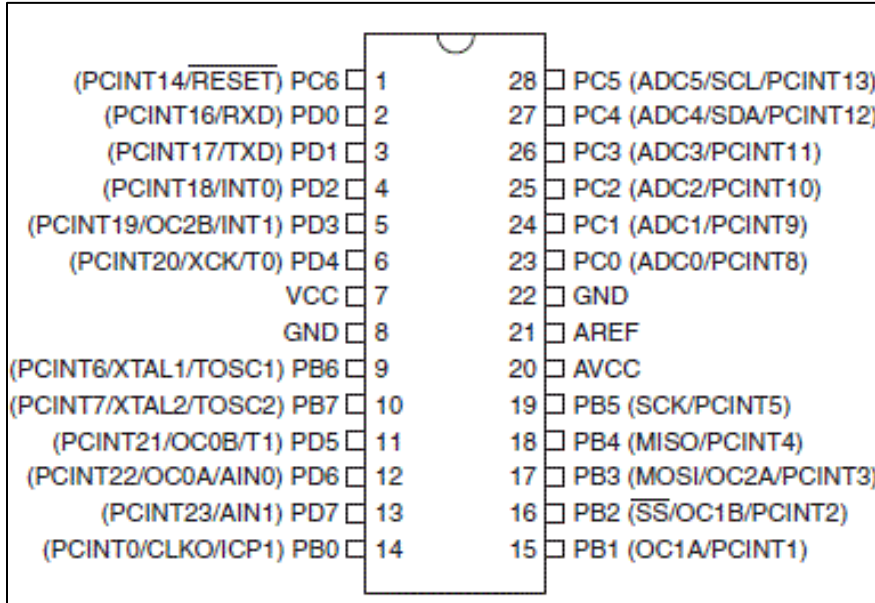

Figure 2.0 ATmega328P Pin-out
Shown in Figure 2.0 but not Table 2.0 is the loss of three digital I/O pins for the XTAL (crystal) and reset. What this means to the system designer instead of having 23 digital pins he/she now only has twenty (20).